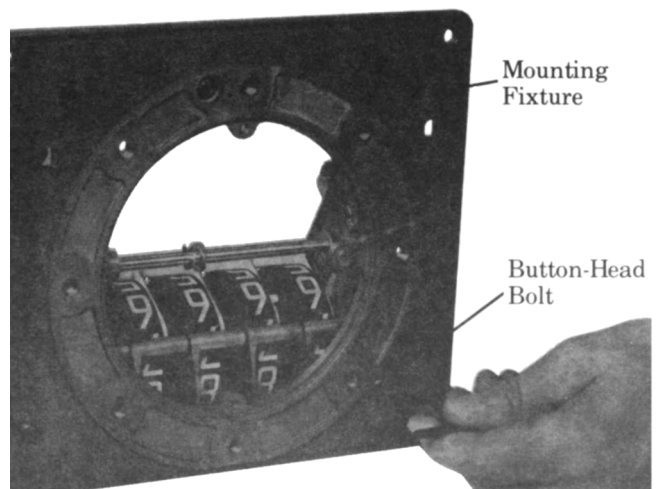

Figure 25. Securing Mounting Fixture.
- Secure the meter register to the fixture with two 1/4-28 button-head bolts. See Figure 25.